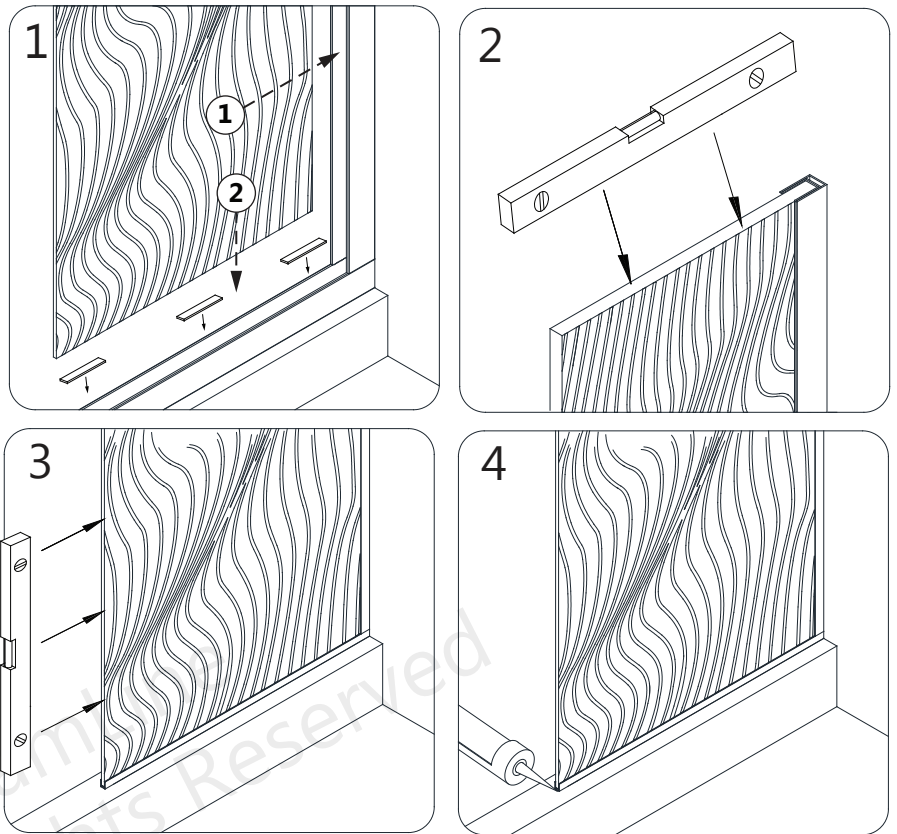

Fig 4
4. Install the **Stationary Glass (#11)** into the **Vertical U-Channel (71") (#09)** and then slide it down into the **Bottom U-Channel (34") (#29)**. Apply a dab of silicone to the exposed end of the **Bottom U-Channel (34") (#29)**. (**Fig 4**)